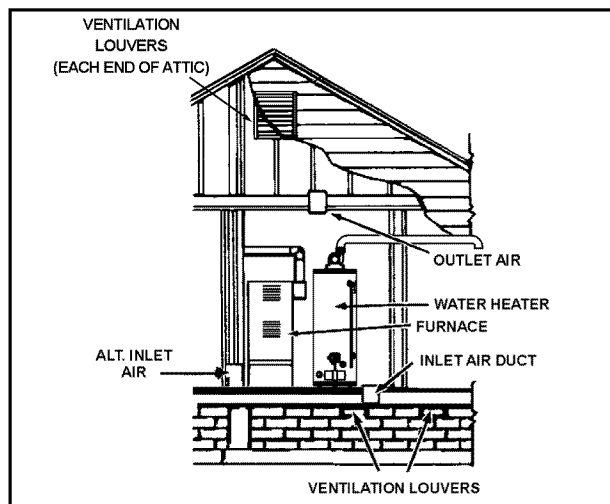

Figure 16
1. When directly communicating with the outdoors, each opening shall have a minimum free area of 1 square inch per 4,000 Btu/hr ($5.5\text{cm}^2/\text{kW}$) of total input rating of all equipment in the enclosure (see Figure 16).